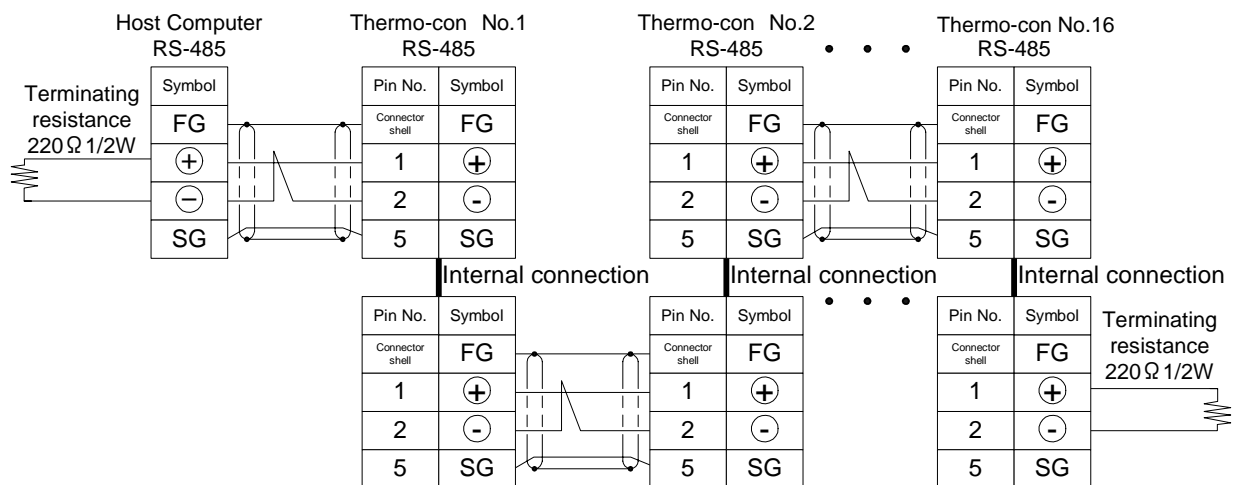

Figure1-1 Communication Connection (RS-485)
- Connection drawing for communication is shown in the Figures 1-1 and 1-2.